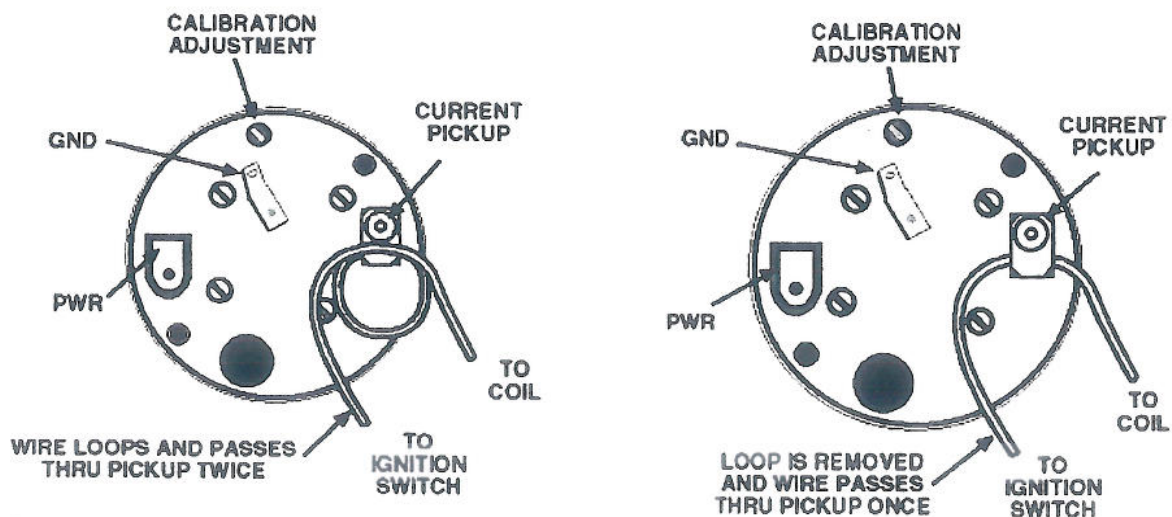

Figure 27. Smiths Tach
2. Locate the external current pickup on the rear of the tach. Refer to **Figure 27**. If your tach does not resemble this figure but has coil and ignition key wires going to a plug, it may have an internal current pickup. In this case, it will be necessary to disassemble the tach. Once the tach is disassembled, you can use the same general procedure as explained in step 3.